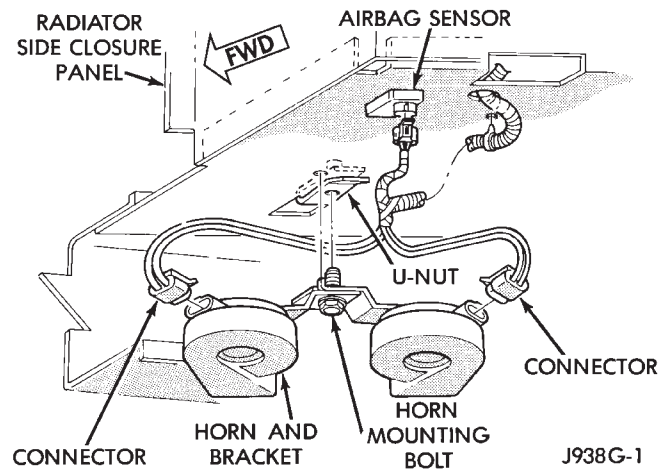

Fig. 3 Horn Removal/Installation
- (1) Raise and support the vehicle.
- (2) Remove the splash shield from passenger side of vehicle.
- (3) Disconnect wire harness connector from the horn (Fig. 3).
- (4) Remove horn mounting bolt and horns. Horn and bracket are removed as an assembly.